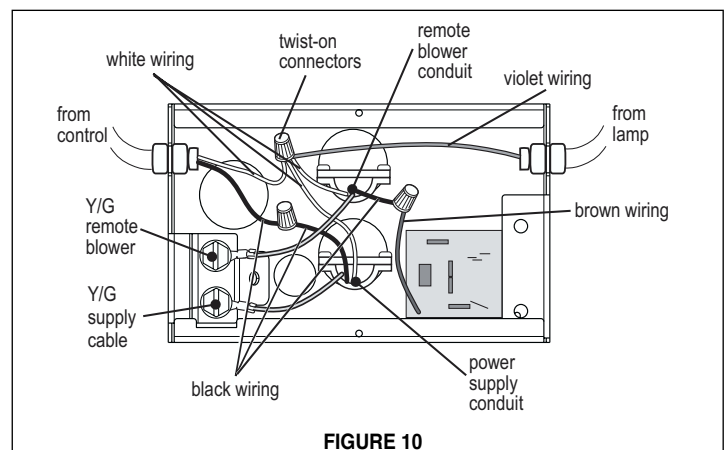

FIGURE 10
8. Remove the wiring box cover by removing the two screws. (See **FIGURE 10** for reference) Insert the cable of the remote blower into the knockout hole of the rangehood. Insert the power supply cable into the hole of the rangehood. Connect the green ground wire from the power supply to the ground screw. Connect the green ground wire from the remote blower to the other green ground screw. Connect the black remote blower motor wire to the brown rangehood wire with a twist-on wire connector. Next connect together with a twist-on wire connector the following wires: - white remote blower motor wire